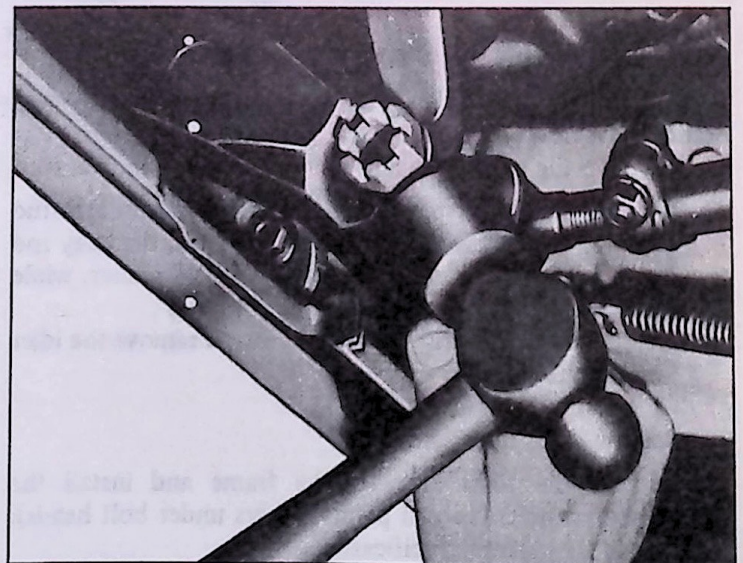

Fig. 15—Ball Stud Removal (Typical)
3. To remove outer ball stud, tap on steering arm at tie rod end with a hammer while using a heavy hammer or similar tool as a backing (fig. 15).
4. Remove the relay rod from the pitman and idler arms by tapping on the relay rod ball stud bosses with a hammer, while using a heavy hammer as a backing (fig. 15).
2. Remove the cotter pin and castellated nut from ball stud at the relay rod. Remove the ball stud from the relay rod by tapping on the relay rod boss with a hammer, while using a heavy hammer as a backing (fig. 15).